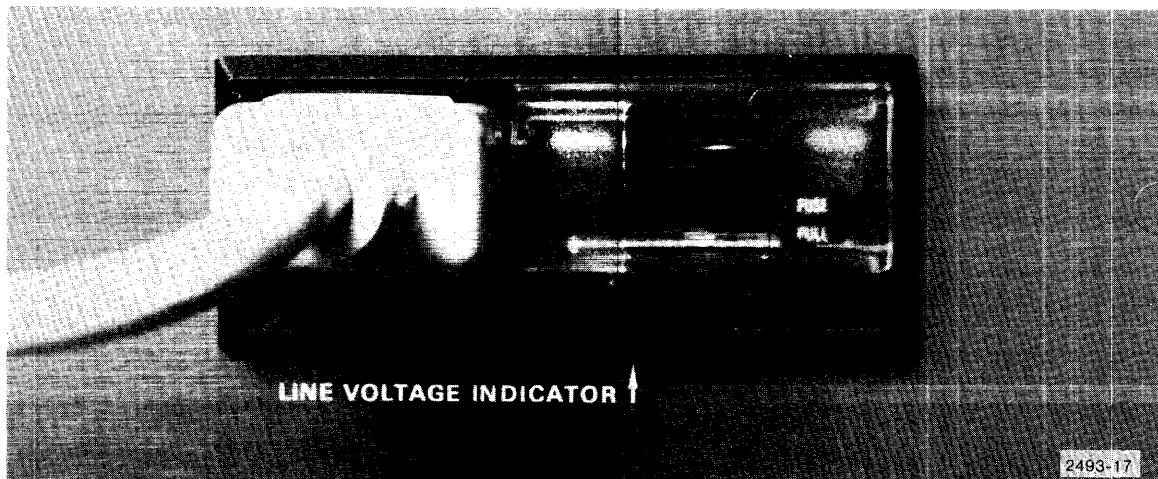

Figure 3-14. Attaching line cord to rear of cabinet.
1. Attach end of line cord to rear of cabinet (Figure 3-14).